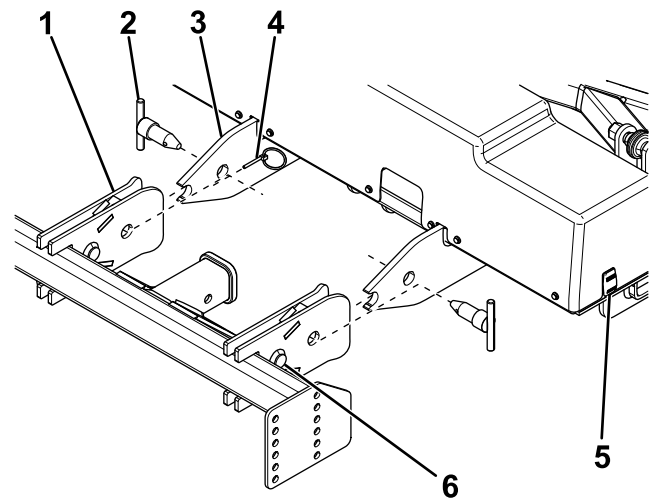

Figure 26
5. Remove the attachment pins securing the plow to the undercarriage (Figure 26).